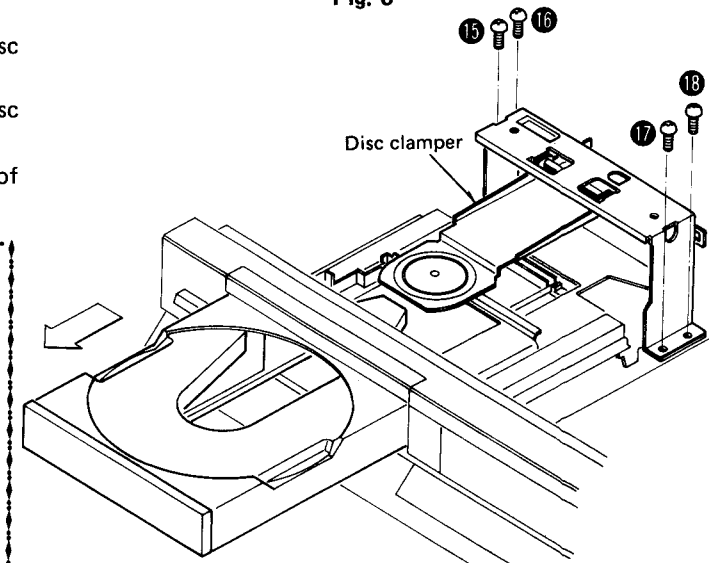

Fig. 7
3. Remove the 4 setscrews [Fig. 7 : ⑮ ~ ⑱] of the disc clamber, then the disc clamber can be removed.